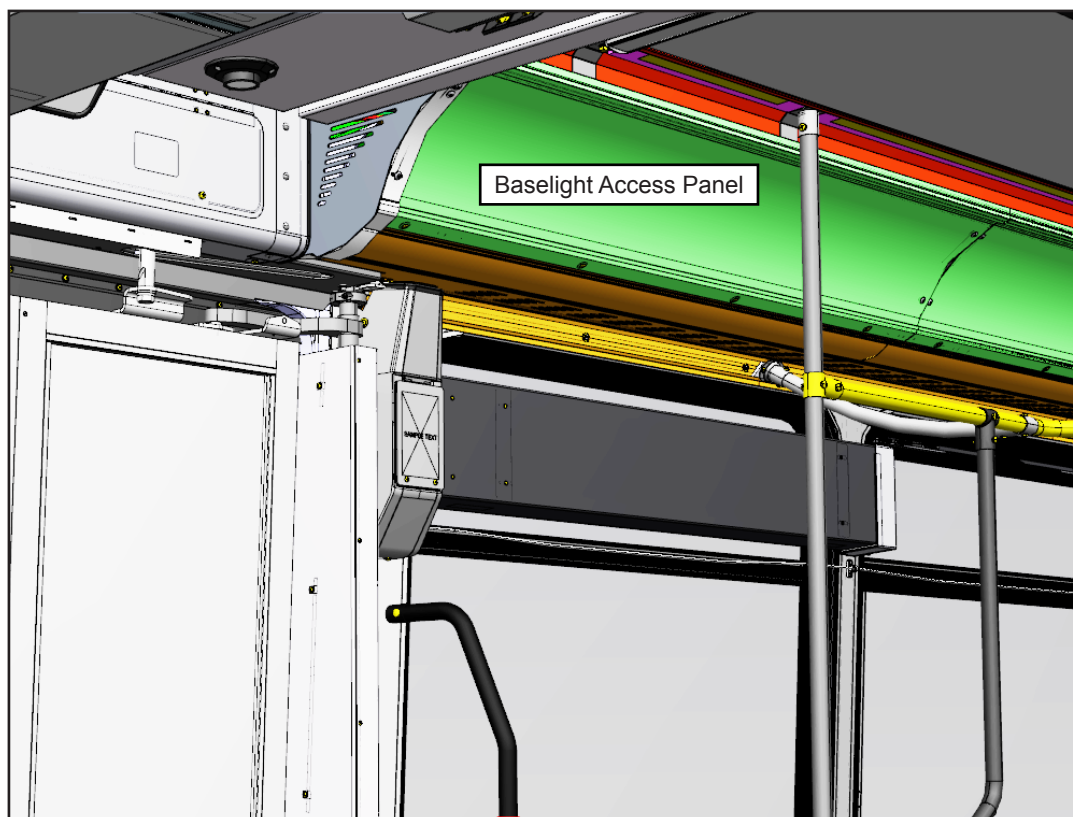

Figure 3 - Typical View of Baselight Access Panel
- 1.5. Remove all the baselight access panels (all sides) and retain the hardware if removed (see Figure 3).